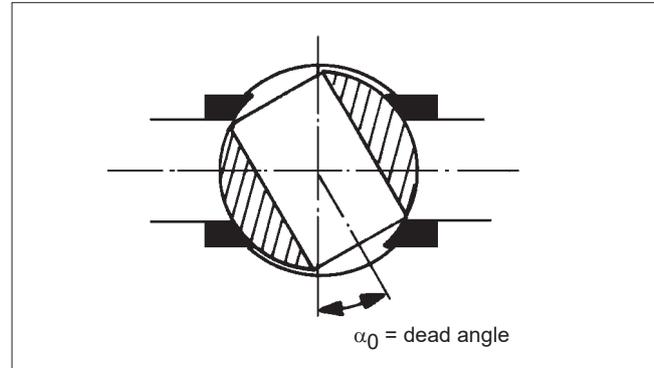

Fig. 13. Zero and range adjustments
- Set the input signal at the closed limit of the valve so that it is 2 % i.e. 0.3 mA higher or lower than the limit value, (e.g. $4 + 0.3 = 4.3$ mA or $20 - 0.3 = 19.7$ mA). Turn the zero adjustment nut (61) with a screwdriver or fingers so that the actuator comes slowly to the closed limit. The valve should open slightly with a 4 % change in signal, that is 0.6 mA, (e.g. $4 + 0.6 = 4.6$ mA or $20 - 0.6 = 19.4$ mA). See Figure 13.
Check the condition of the O-rings (43 and 47) and of the gasket (45). The end of the leaf spring on the beam must be on top of the pilot valve spool (Figure 13). Make sure that the end of the beam (5) goes into the spool groove without sideways deflections. After tightening the nuts (49), check the beam once again by hand to see that the pilot valve moves readily.